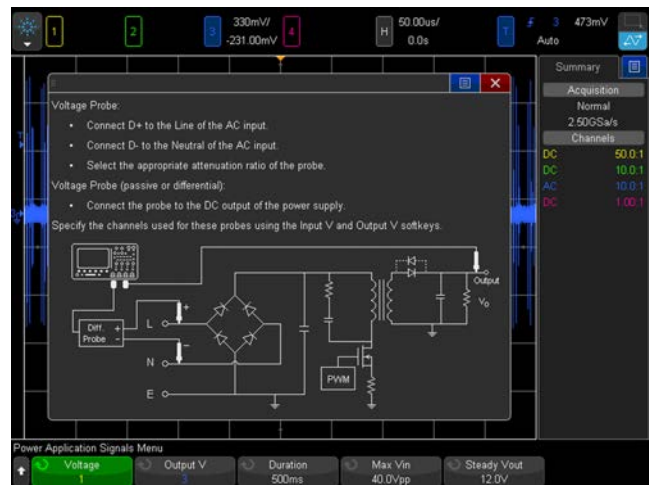

Figure 29: Turn-on/Turn-off connections diagram in the Signals menu.
5. Connect the N2790A differential active probe between the scope's channel-1 input to Line (red lead) and Neutral (black lead) as illustrated in the on-screen connections diagram shown in Figure 29. If using Agilent's power training kit, connect to **TP2** (red lead) and **TP1** (black lead).